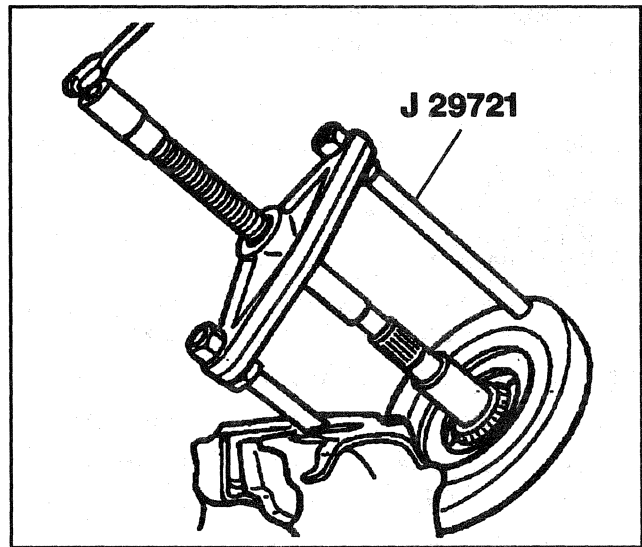

Figure 13—Removing the Pinion Inner Bearing
27. Pinion inner bearing (3) using J 29721 and J 29721-70 (Figure 13).